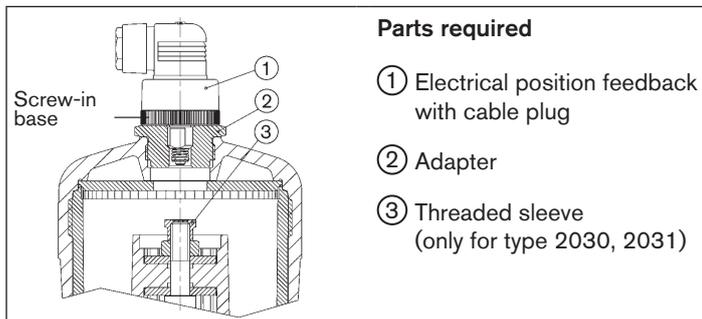

Fig. 11: Actuator size 100, 125 (Ø in mm) with electrical position feedback
- Screw adapter ② instead of transparent cap onto actuator (see "Fig. 11").
- Screw electrical position feedback ① into adapter ② (see "Fig. 11") following the note in Chapter "10", page 19.